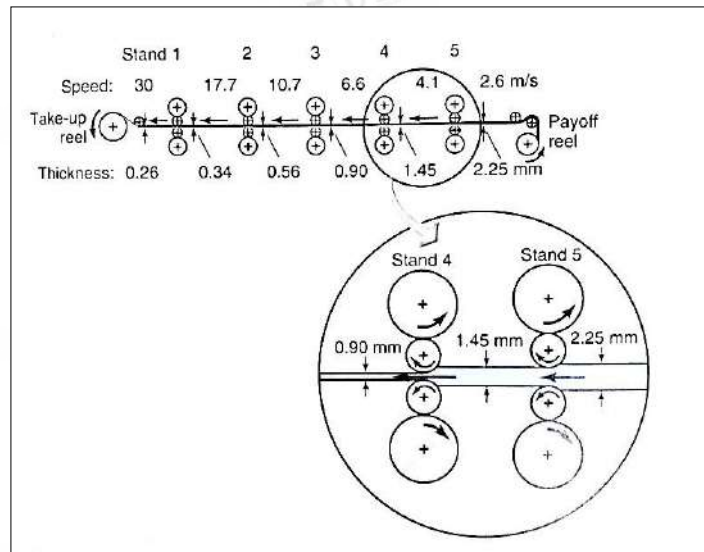

Figure Q2(c) / Rajah Q2(c)
- c) Describe the controlling the roll speed, roll gaps, temperature and other process variables in a tandem rolling operation as shown in **Figure Q2(c)**. Explain how you would go about determining the optimum distance between the stands.